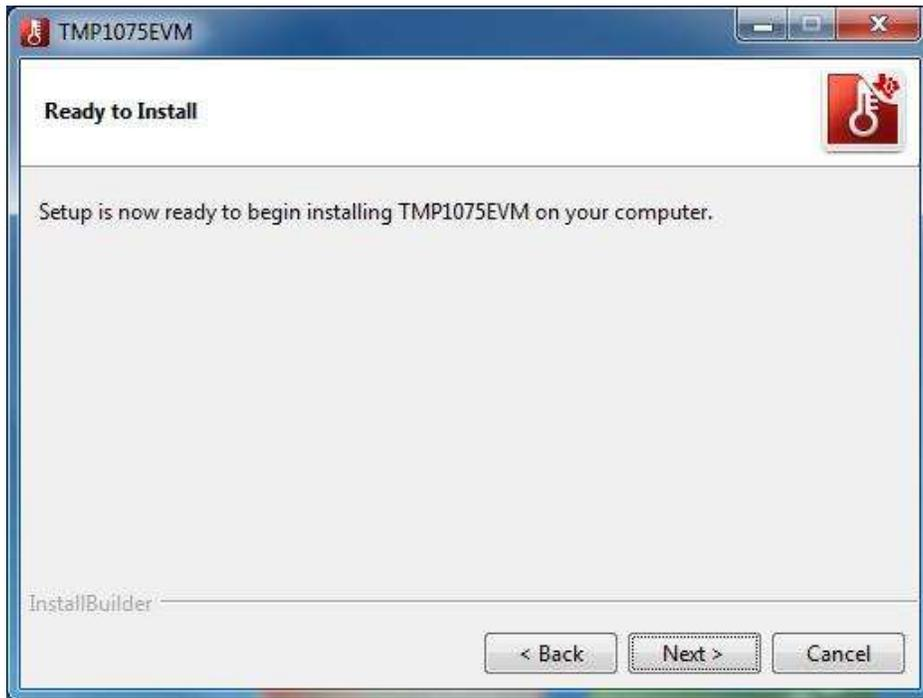

Figure 10. Ready to Install
- Click the *Next* button in Figure 10 to proceed the installation processes.